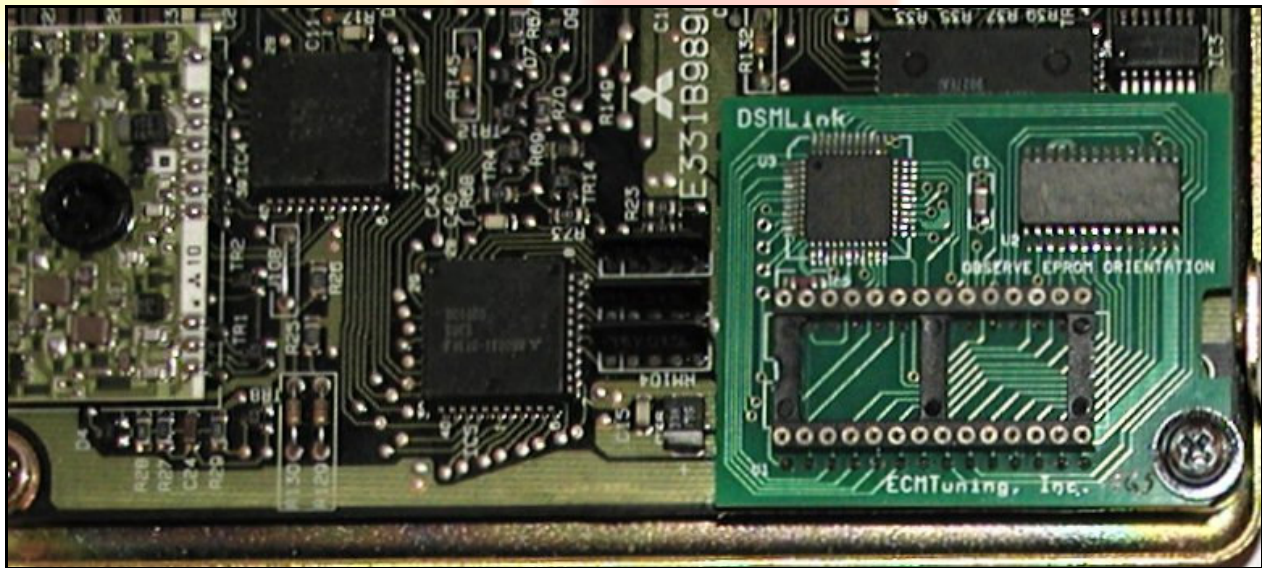

Figure 2: After installation
3. Install the Memory Board into EPROM socket, using the included spacer and washers to stabilize the board. Refer to Figure 2. Refer to the next page for more information on how to properly install the spacers and washers.